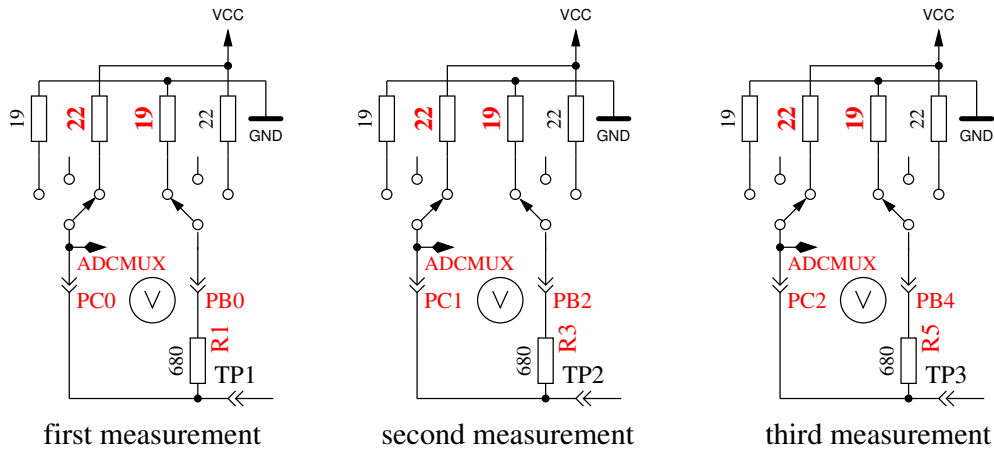

Figure 4.25: Measurement of internal resistance of Port C switched to VCC
8. Measuring of internal resistance of port outputs switched to the VCC (+) signal. The needed current is generated with to GND connected  $680\Omega$  resistors . The text in the 1st LCD row is Ri.Hi= (mV). In the second row of the LCD three voltages are displayed (in difference to VCC). It are the same measurements as those in test 7 to the other side as you can see in Figure 4.25. With the following steps you can get the resistance: To get the current build:  $(5001 - (resultoftest7) - (resultoftest8))/680$ . Then you can get both resistor values by dividing the voltage (result of test 7 or 8) by this current.